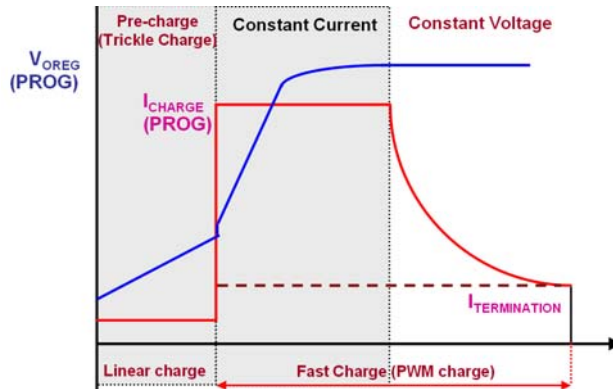

Figure 1: Li-Ion Charging profile
are initially charged at a constant current (CC) until the voltage regulation threshold is reached. After the voltage threshold is reached the battery is charged at a constant voltage (CV). If the battery voltage before charging is very low, then it may need pre-charging or trickle charge. The charging profile of a Li-Ion charger is as shown in figure 1.